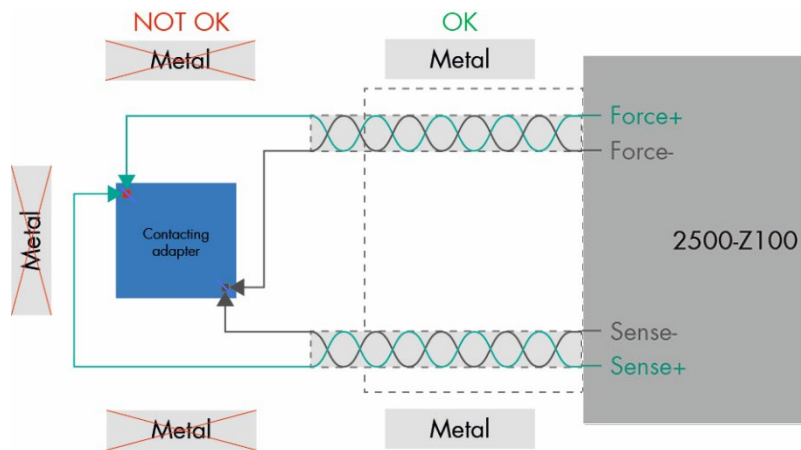

Figure 6 Metallic objects in the vicinity of the measuring cables cause interference.
- The model 2500-Z100 battery cell simulator can be connected via a contacting adapter that represents a battery cell to a model 2511 battery (shown in figure 6).